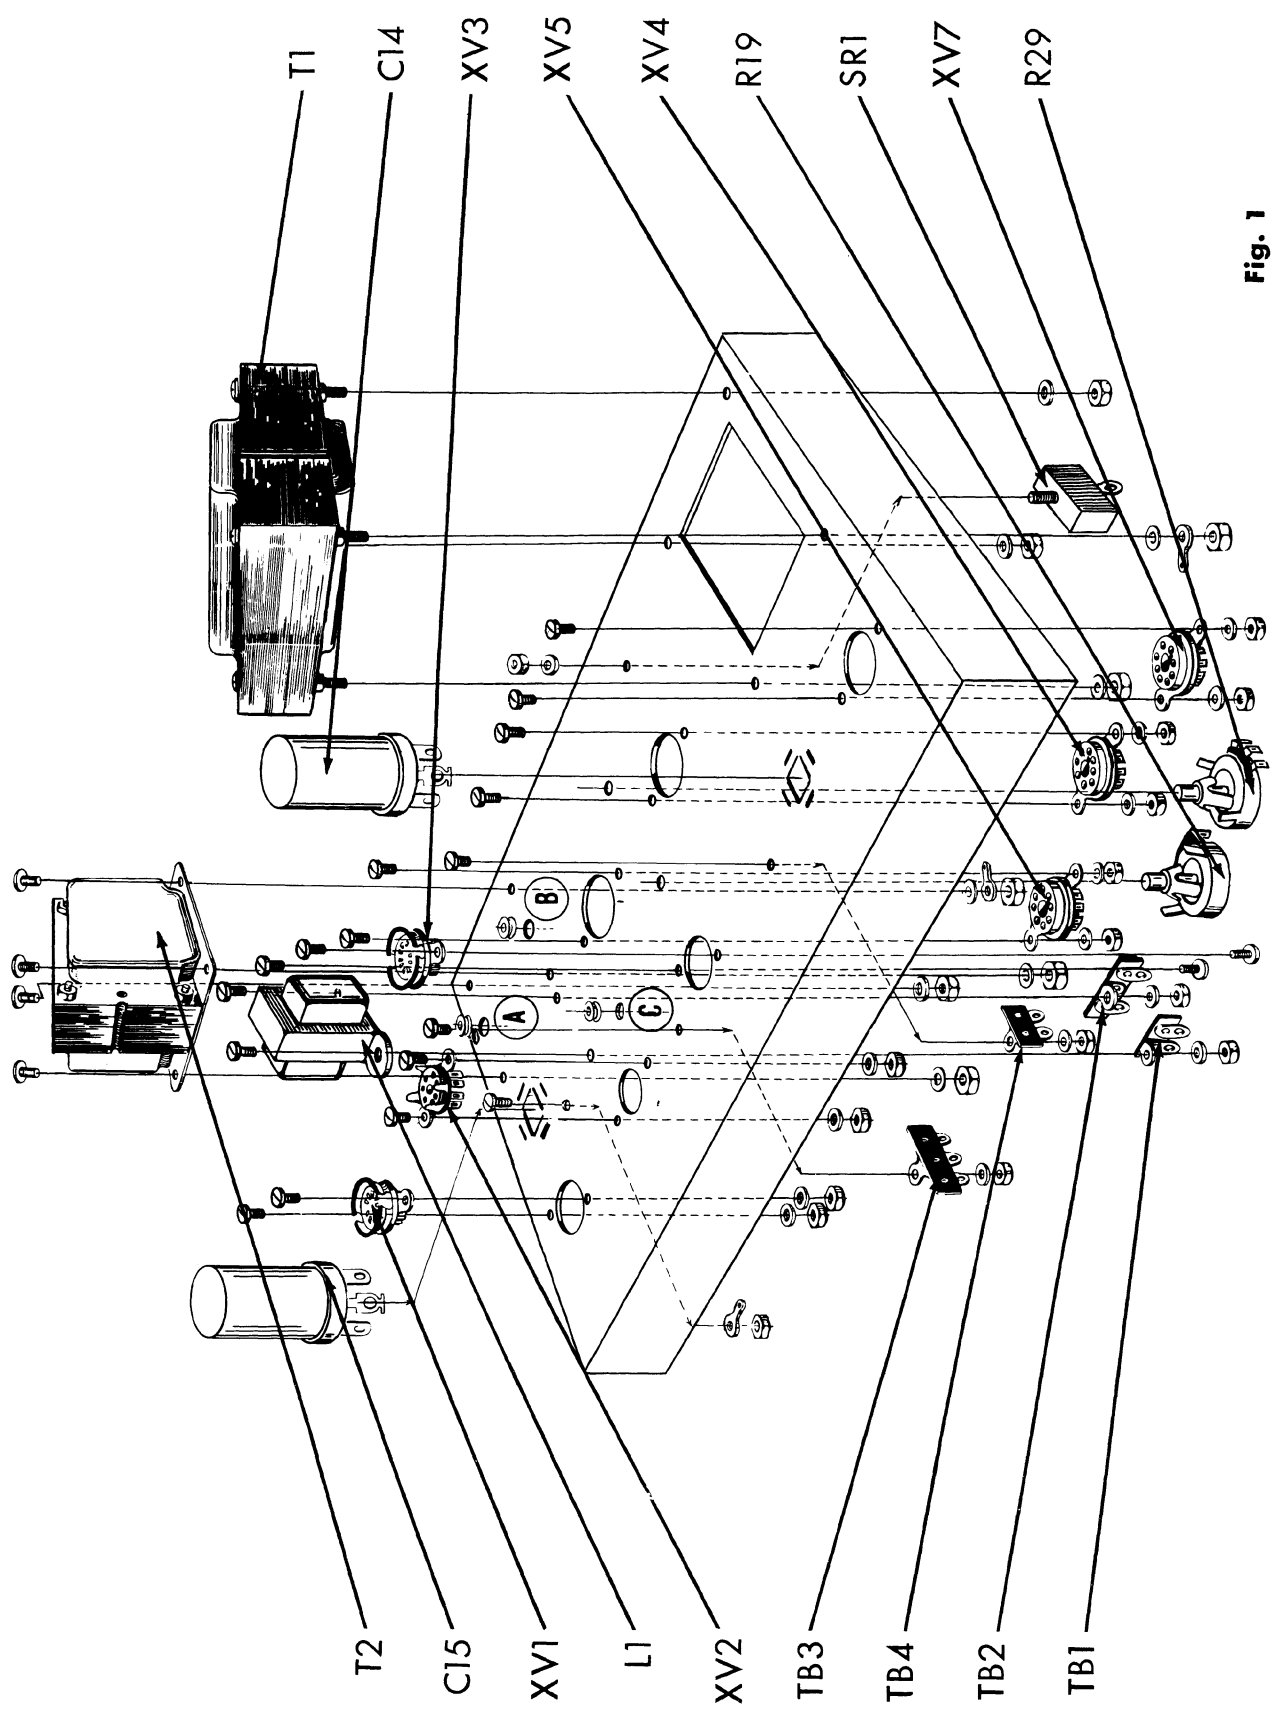
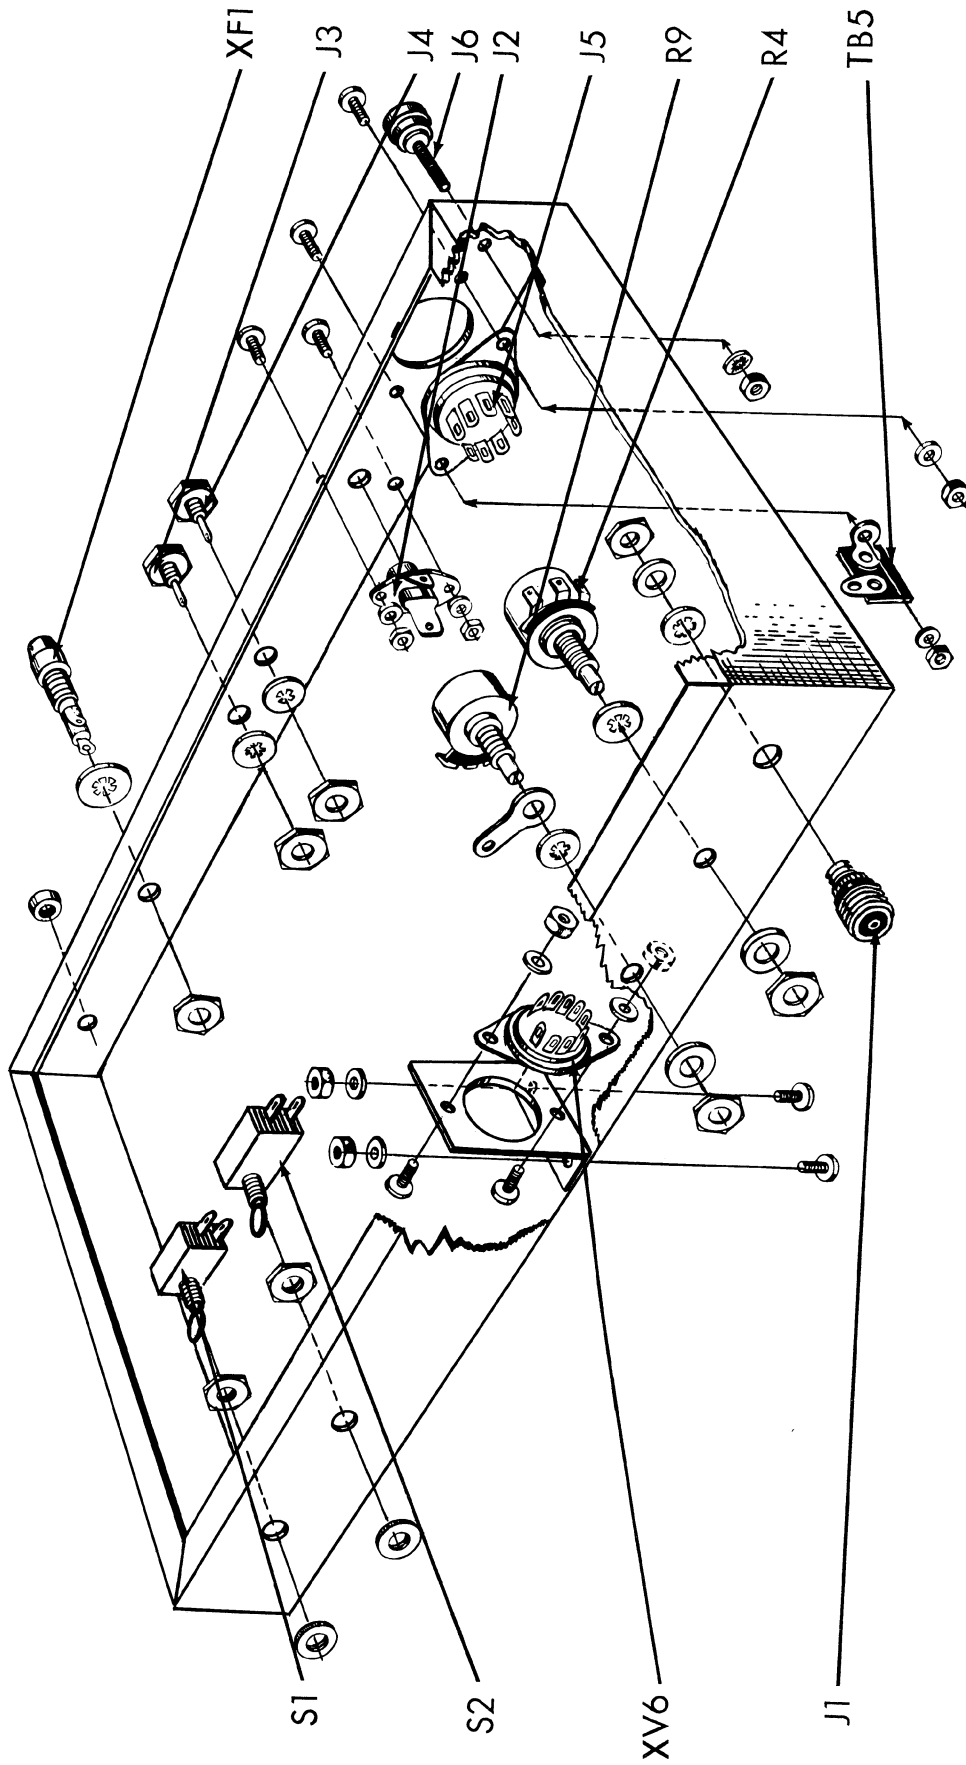
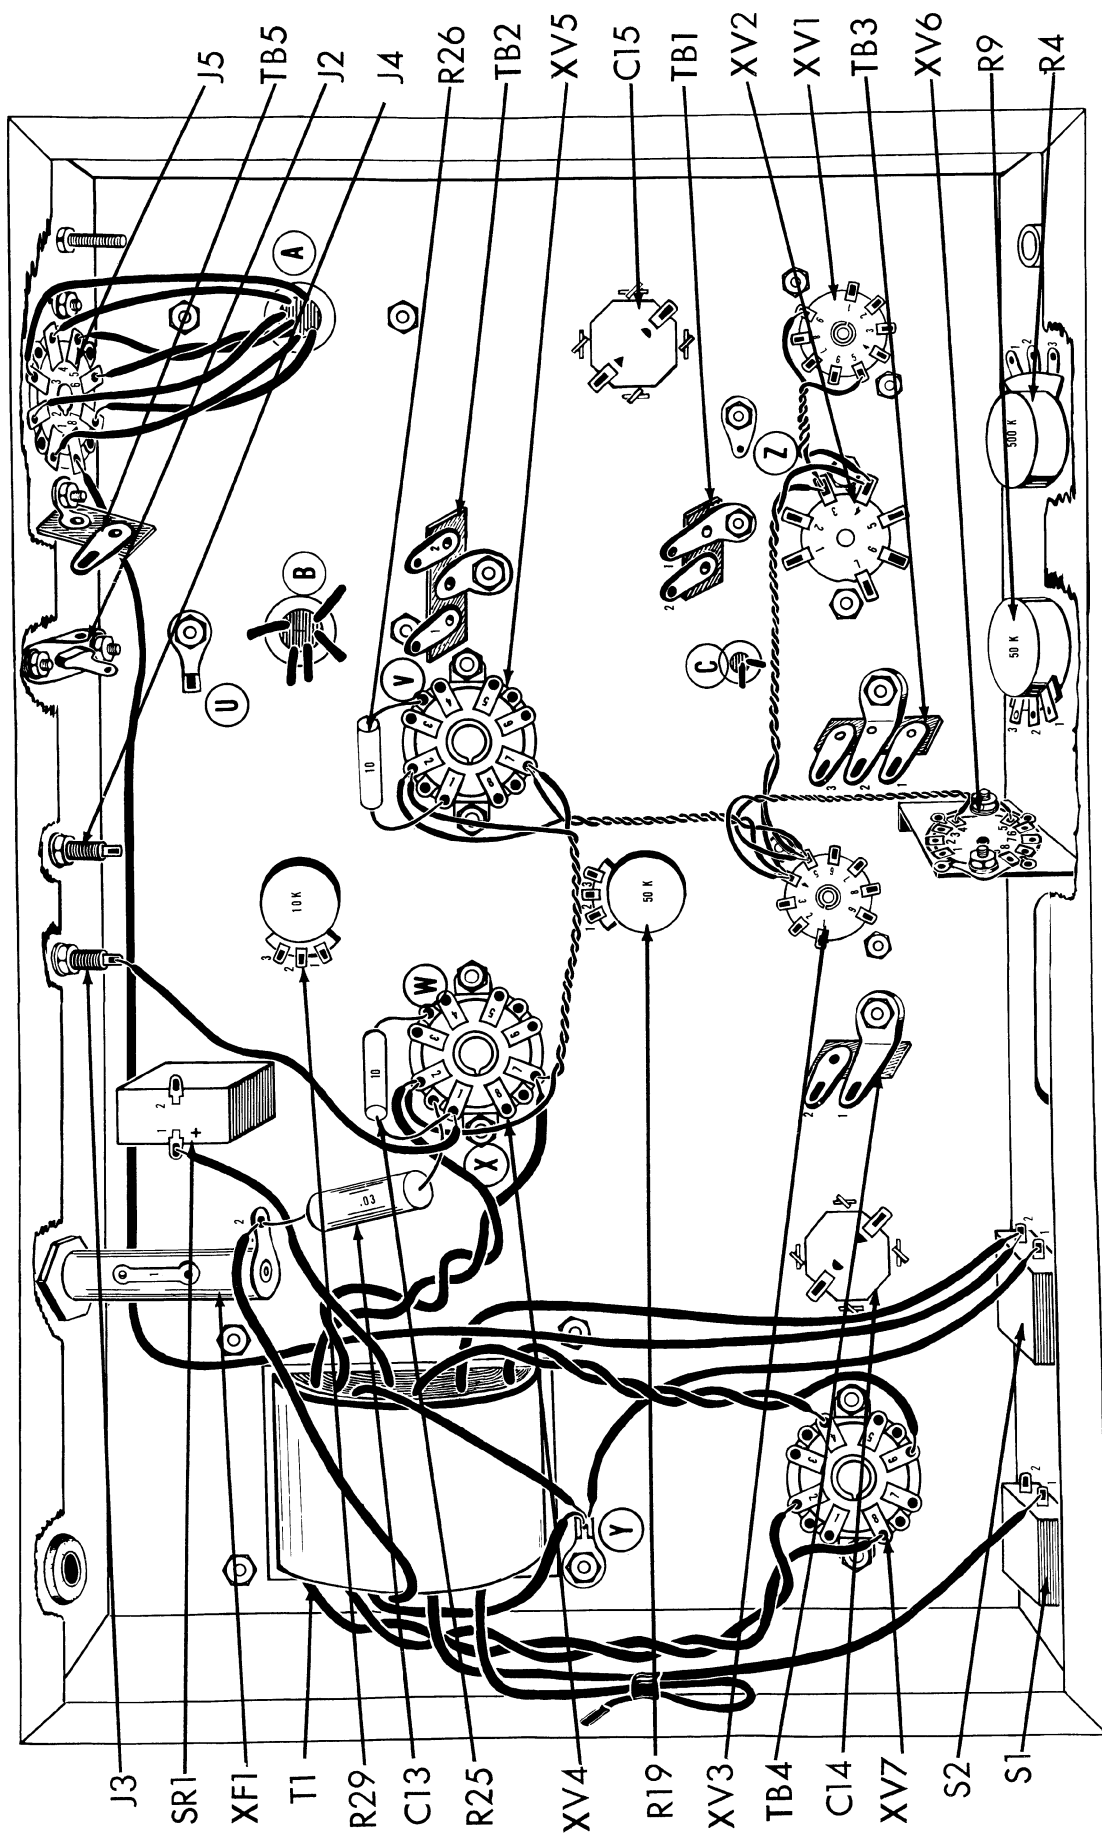

Fig. 1
Fig. 2
Fig. 3
1. () Fig. 1. On power transformer T1, (30029), cut both yellow leads to 6", red leads to 5", the green leads to 3", the blue leads to 4", the black lead to 4 1/4", the black-green and the black-red to 6 1/2", the red-yellow to 4 3/4" and the white lead to 3". Mount the transformer as shown, with the yellow leads closest to the side of the chassis. Use four #8 lockwashers and four #8-32 hex nuts. Under one of the hex nuts mount a #8 ground lug.
2. () Fig. 1. Mount one 5/8" grommet in hole "A" in the top of the chassis and a second 5/8" grommet in hole "B".
3. () Fig. 1. On output transformer T2, cut the red lead to 8", the brown lead to 6" and all other leads to 3". Mount the transformer as shown, pushing the red, brown, blue, green and black leads through the grommet mounted in hole "B", and the remaining leads through the grommet mounted in hole "A". Use four #8-32 screws, four #8 lockwashers and four #8-32 hex nuts. Under one of the hex nuts mount a #8 ground lug.
4. () Fig. 1. Mount selenium rectifier SR1, from below the chassis, as shown. Use one #6 lockwasher and one #6-32 hex nut. Orient the rectifier so that plus terminal (marked on rectifier) is closest to the power transformer, T1.
5. () Fig. 1. Mount the octal sockets, XV4, XV5 and XV7, from below the chassis, as shown. Note orientation of center key from figure 3. Use two #6-32 screws, two #6 lockwashers and two #6-32 hex nuts on each.
6. () Fig. 1. Mount the 10K snap-in type pot, R29, between tube sockets XV4 and XV5, towards the rear of the chassis, as shown. Push the pot into the center hole and the two tabs at the side into the two smaller outside holes. Press firmly against the pot towards the chassis until a click is heard and the pot is secured to the chassis. (see fig. 3 for location of lugs)
7. () Fig. 1. Similar to the above, in step 6, mount the 50K snap in type pot, R19. This is located between sockets XV4 and XV5 towards the front of the chassis.
8. () Fig. 1. Mount the nine pin miniature tube sockets with shield support, XV1 and XV3, from the top of the chassis, as shown. Note orientation in Fig. 3. Use two #4-40 screws, two #4 lockwashers and two #4-40 hex nuts on each.
9. () Fig. 1. Mount the seven pin miniature tube socket, with shield support XV2, from the top of the chassis, as shown. Note orientation in Fig. 3. Use two #4-40 screws, two #4 lockwashers and two #4-40 hex nuts.
10. () Fig. 1. Mount a 1/4" grommet in hole "C", near socket XV2.
11. () Fig. 1. On choke L1, cut one lead to 3 1/2" and the second lead to 4". Push these leads through the grommet mounted in hole "C". Mount the choke as shown, using two #6-32 screws, two #6 lockwashers and two #6-32 hex nuts. Under one of the lockwashers, nearest XV2, mount a one post left with ground terminal strip, TB1. Under the second lockwasher, mount a two post terminal strip, TB2.
12. () Fig. 1. Mount electrolytic can capacitors, C14 and C15, as shown. Note orientation of half moon and triangle in figure 3. The mounting taps are inserted into the slots provided on the chassis and twisted somewhat less than a quarter turn. DO NOT twist the taps excessively or they will shear off. Solder one mounting tab to the chassis at the mounting point.
13. () Fig. 1. Mount ground lug "Z" near XV1, as shown. Use one #6-32 screw and one #6-32 hex nut.
14. () Fig. 1. Mount two post with ground terminal strip, TB3 between XV2 and XV3 and on post right with ground terminal strip, TB4 between XV3 and C14. Use one #6-32 screw, one #6 lockwasher and one #6-32 hex nut on each.
1. () Fig. 2. On the tube bracket, shown mounted, mount a nine pin miniature tube socket, XV6, as shown. Use two #4-40 screws, two #4 lockwashers and two #4-40 hex nuts.
2. () Fig. 2. Mount the tube bracket, as shown. Use two #6-32 screws, two #6 lockwashers and two #6-32 hex nuts. Tighten these screws slightly, so that bracket can be adjusted after the tube is inserted in its socket.
3. () Fig. 2. Mount 500K pot R4 and 50K pot, R9, as shown. Use one 3/8 lockwasher, one 3/8 flatwasher and one 3/8 hex nut on each. In addition, R9 gets a 3/8 ground lug mounted between the pot and the lockwasher. Orient the lug so that it is opposite R9-3.
4. () Fig. 2. Mount the two SPST Toggle switches, S1 and S2, as shown. Use a hex nut inside the chassis and a round nut outside the chassis, on each. Adjust the hex nut so that only 1/16" of the screw threads can be seen from the front of the chassis, outside the round nut.
5. () Fig. 2. Mount the mic input jack, J1, as shown. Use one 3/8 lockwasher, 3/8 flat fibre washer and one hex nut to secure jack to the chassis. Discard remaining hardware supplied with mic connector.
6. () Fig. 2. Mount grounding terminal post, J6, as shown. Use one #8 lockwasher and one #8-32 hex nut.
7. () Fig. 2. Mount octal socket J5, as shown. Note orientation in figure 3. Use two #6-32 screws, two #6 lockwashers and two #6-32 hex nuts. Under one of the lockwashers, mount a one post upright, right terminal strip, TB5.
8. () Fig. 2. Mount phono jack, J2, as shown. Use two #4-40 screws, two #4 lockwashers and two #4-40 hex nuts.
9. () Fig. 2. Mount test point pin jacks, J3 and J4, as shown. Use one fiber shoulder washer and one hex nut supplied with the jack, on each. Note that the shoulder washer fits through the hole so that the jack will not short to the side of the hole.
10. () Fig. 2. Mount the fuseholder, XF1, as shown. Use a rubber washer against the outside of the chassis under the wider part of the holder. Slide the large nut over the fuseholder on the inside of the chassis. DO NOT tighten nut too much or holder will crack.
11. () Fig. 2. Mount a 3/8 grommet in the remaining hole next to the fuseholder.
1. () Fig. 3. From power transformer T1, twist the two yellow leads and run along the chassis, as shown. Connect one lead to XV7-8 (C) and the second lead to XV7-2 (S1).
2. () Fig. 3. From power transformer T1, connect the white lead and one blue lead to ground lug "Y" (C).
3. () Fig. 3. Connect a 5" piece of heavy yellow wire from ground lug "Y" (S3) to S2-1 (S1).
4. () Fig. 3. Connect one end of a 15" piece of heavy yellow wire to S2-2 (C). Run along the chassis as shown. Connect the other end to J5-8 (S1).
5. () Fig. 3. Connect the red-yellow lead from power transformer T1 to S2-2 (S2).